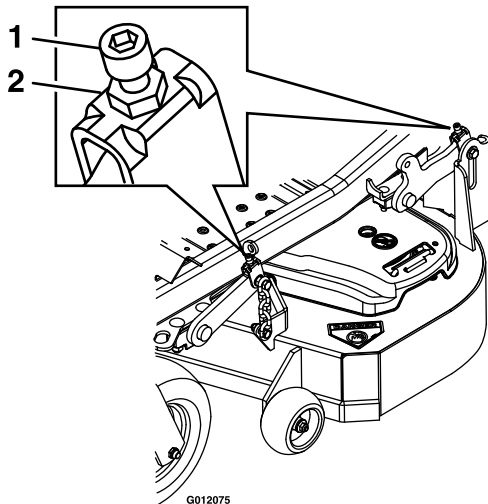

Figure 27
10. Fine tune the front deck lift assembly by turning the adjuster screw until it reaches the 3 inch (7.6 mm) height (see Figure 27). To increase the height, turn the adjuster screw clockwise; to decrease, turn counterclockwise.